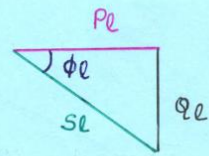

Fig 3.
④ The relationship between S_L , P_L & Q_L is shown in figure 3.